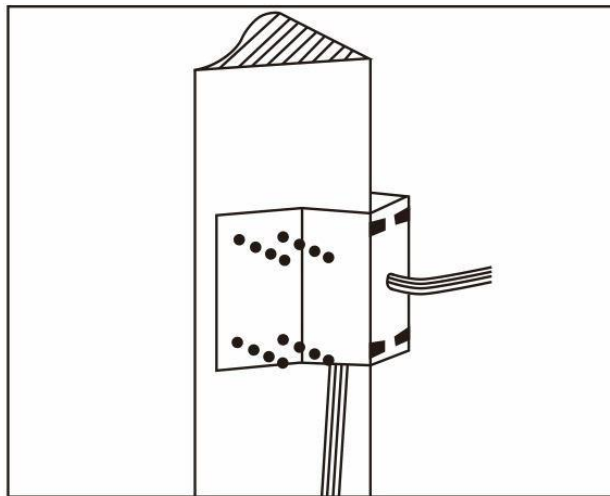

Fig 13
b. As shown in fig 13, use M8 screw nut to fix the base of corner mounted on the wall with all cables through the center holes of the corner mounted, marine glue and bracket. Enough wiring length should be left.